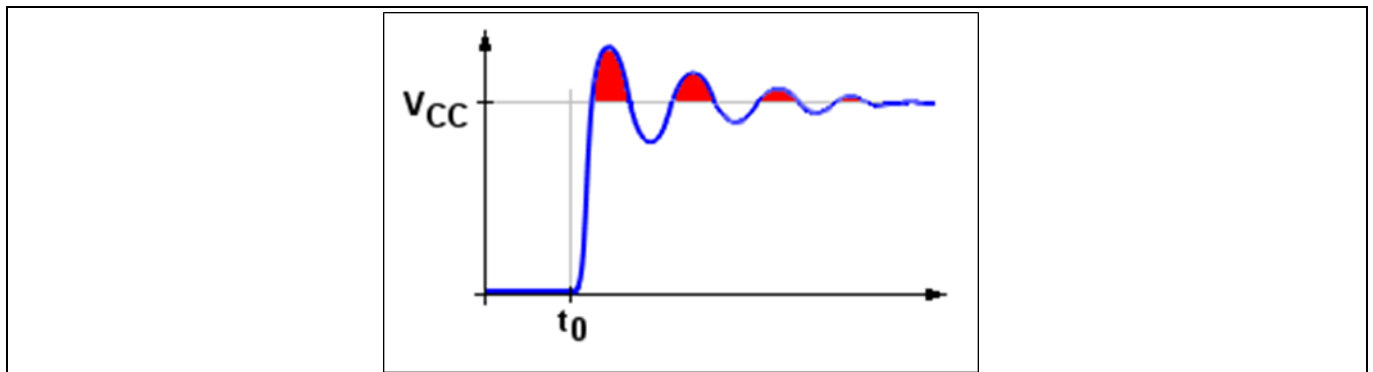

Figure 11 Signal overshoots on the port pin after closing the switch
This (weakly) attenuated oscillator causes voltage overshoots on the port pin (Point (B)), as shown in red in Figure 11.